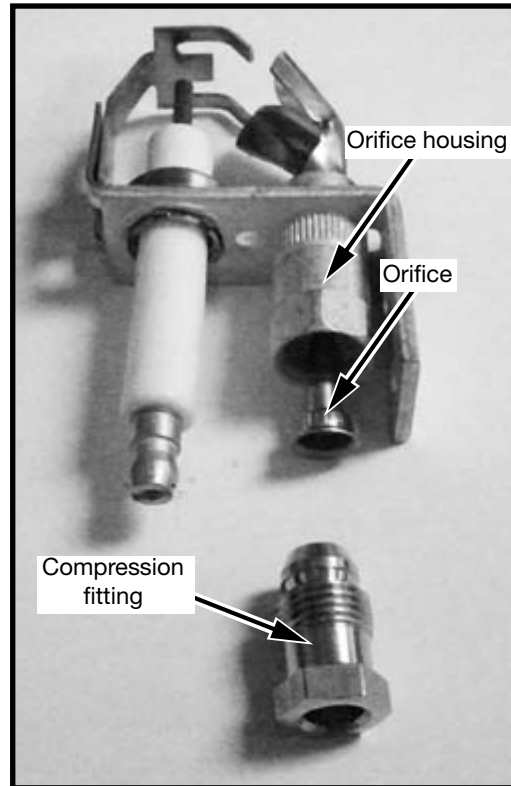
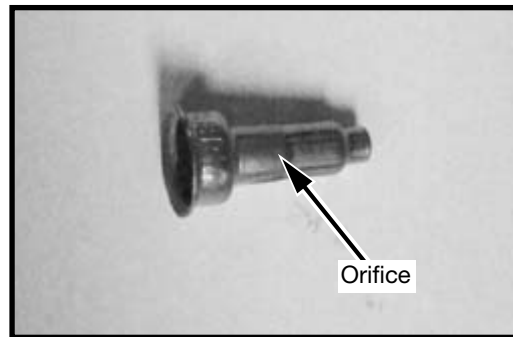

Figure 2: Orifice insert.
Figure 3: Orifice.
2. Insert the propane orifice that came in your instruction pack as shown into the orifice housing and reattach the pilot to the compression fitting and pilot tube (Figure 2 and Figure 3).